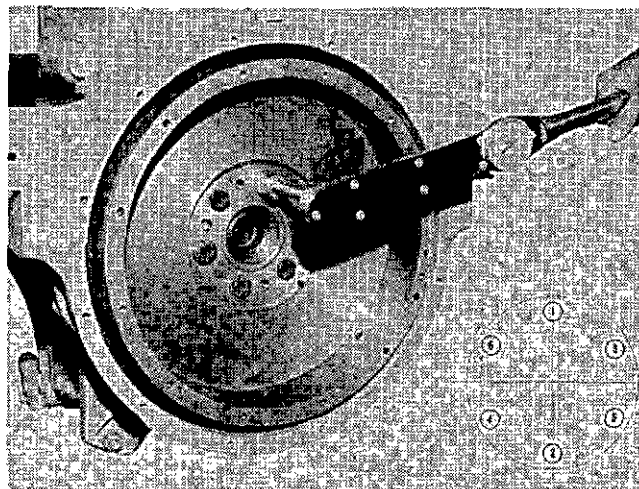

Fig. 14-59 (N11451). Tightening Sequence For The Flywheel Capscrews.
- b. Use the sequence shown in Fig. 14-59 and tighten the capscrews until the flywheel is flat against the crankshaft flange.